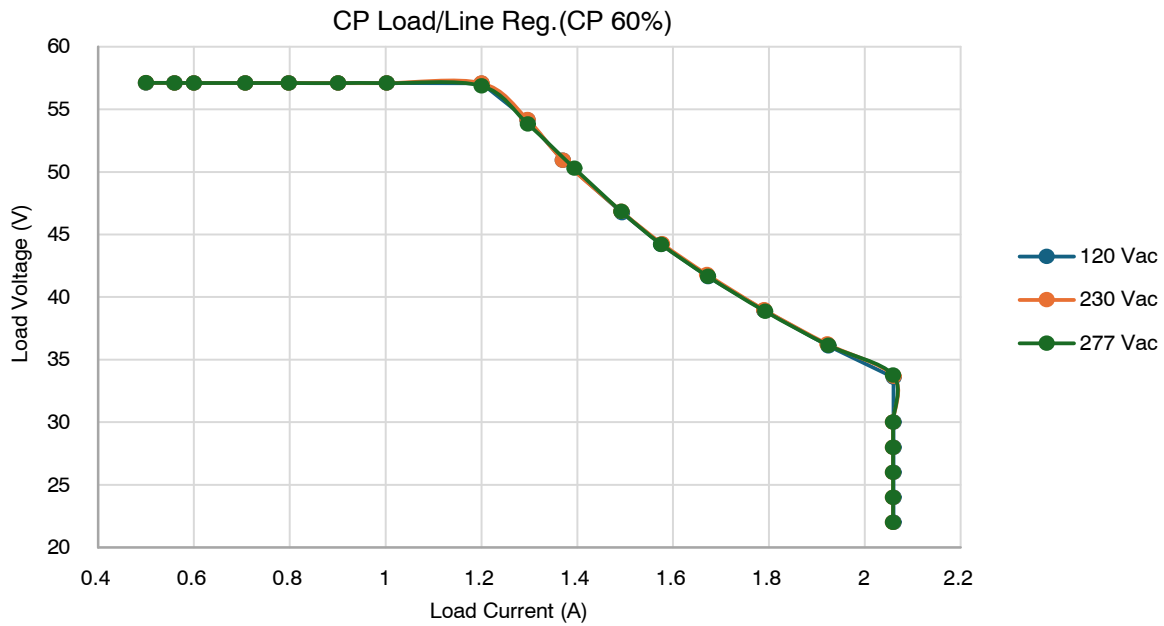

Figure 11. Constant Power Curve Across Line Levels
In typical operation, the NCP1945 LED driver board will regulate the current to the set level, and the output voltage is set by the forward drop of the LED load. However, this can lead to a situation where an incorrectly set current limit will cause the board to deliver enough power to damage the LED load. To prevent this from occurring, the NCL38046 features constant power regulation. The controller will reduce the current setpoint to maintain constant power. Figure 11 shows the constant power curve with the constant power coefficient (K_{CP}) set at 60%. During first power up, the NCL38046 detects the resistance and capacitance on the set pin. The detected Rset and Cset values determine the constant power coefficient. For ease of operation, there is a daughter card on the secondary side, that allows the user to set the Rset and Cset value.
1.3 A, 56 V to 2.1 A, 36 V, the power is reduced such that 75 W is maintained throughout the constant power curve. It should be noted that this is an ideal curve, and the measured constant power curve can be found in Figure 11.